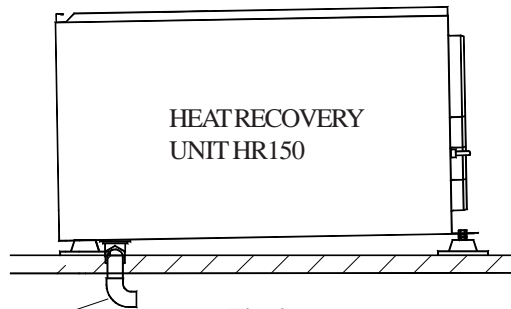

Fig. 2a
2.4.2 When the unit is installed in the roof space or a heated area, it may only be positioned on its back (as shown in Fig. 2a).